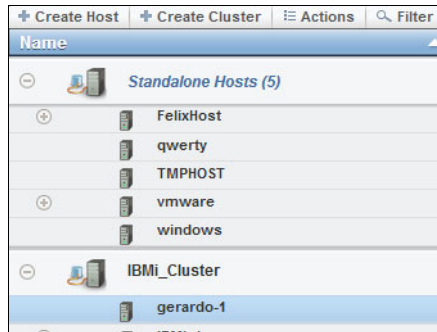

Figure 11-75 Hosts window showing the created cluster
- Repeat the previous actions to add all hosts that are required in the cluster. After you complete all the hosts, assigned hosts will be listed under the cluster in the Hosts window as shown in Figure 11-75.